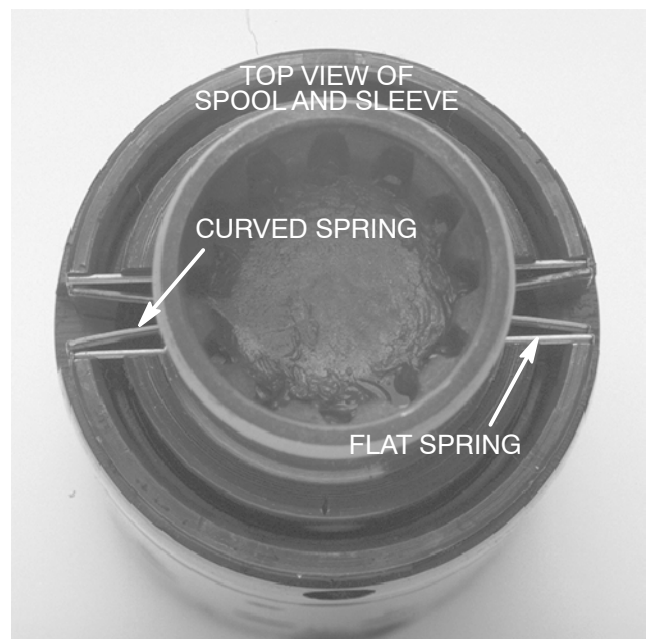

Figure 71
2. Insert two flat springs into the slot of the spool. Insert two curved springs between the flat springs and press them into place (Fig. 71).